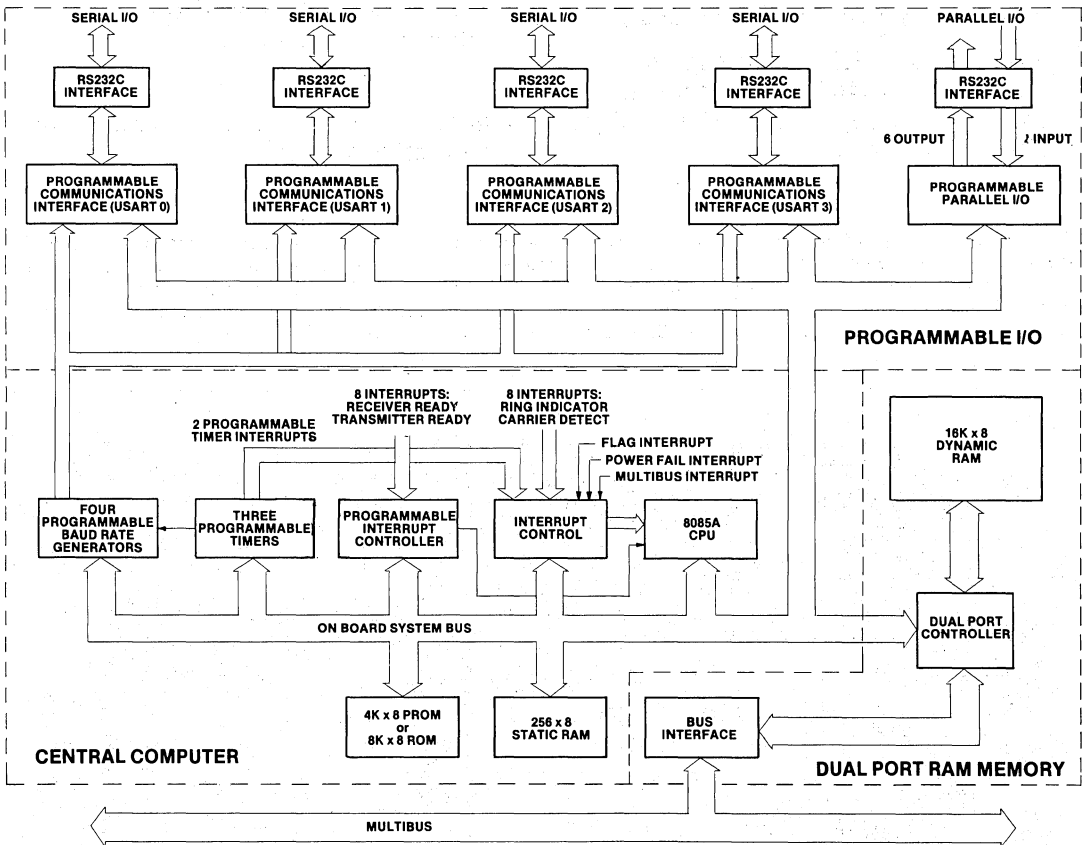

Figure 1. iSBC 544 Intelligent Communications Controller Block Diagram
**Architecture** — The iSBC 544 board is functionally partitioned into three major sections: I/O, central computer, and shared dual port RAM memory (Figure 1). The I/O hardware is centered around the four Intel 8251A USART devices providing fully programmable serial interfacing. Included here as well is a 10-bit parallel interface compatible with the Bell 801 automatic calling unit, or equivalent. The I/O is under full control of the on-board CPU and is protected from access by system bus masters. The second major segment of the intelligent communications controller is a central computer, with an 8085A CPU providing powerful processing capability. The 8085A together with on-board EPROM / ROM, static RAM, programmable timers/counters, and program-